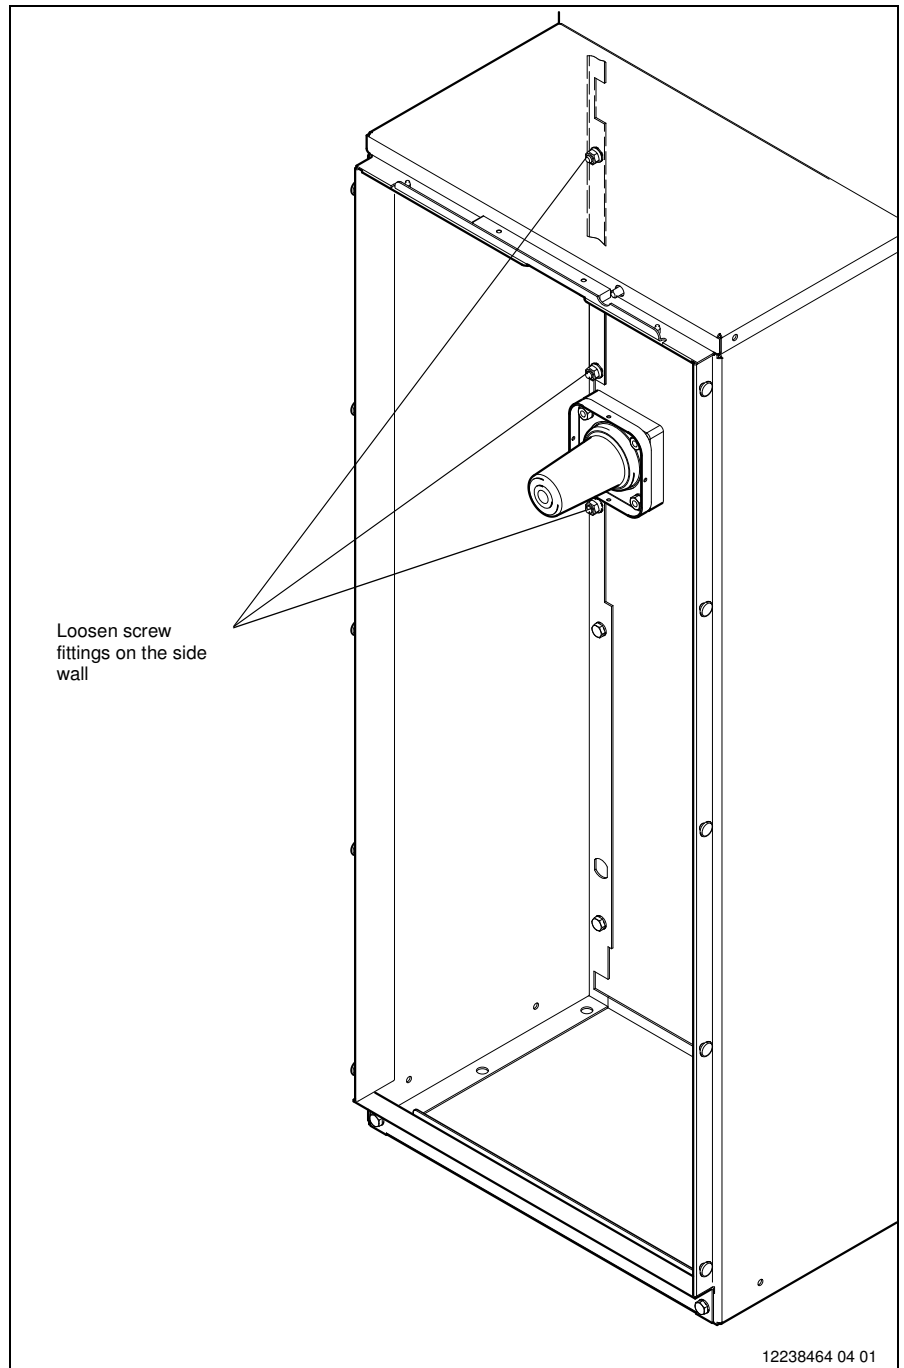

Fig. 15
- Loosen the screws in the left side wall of the cable connection compartment (Fig. 15).